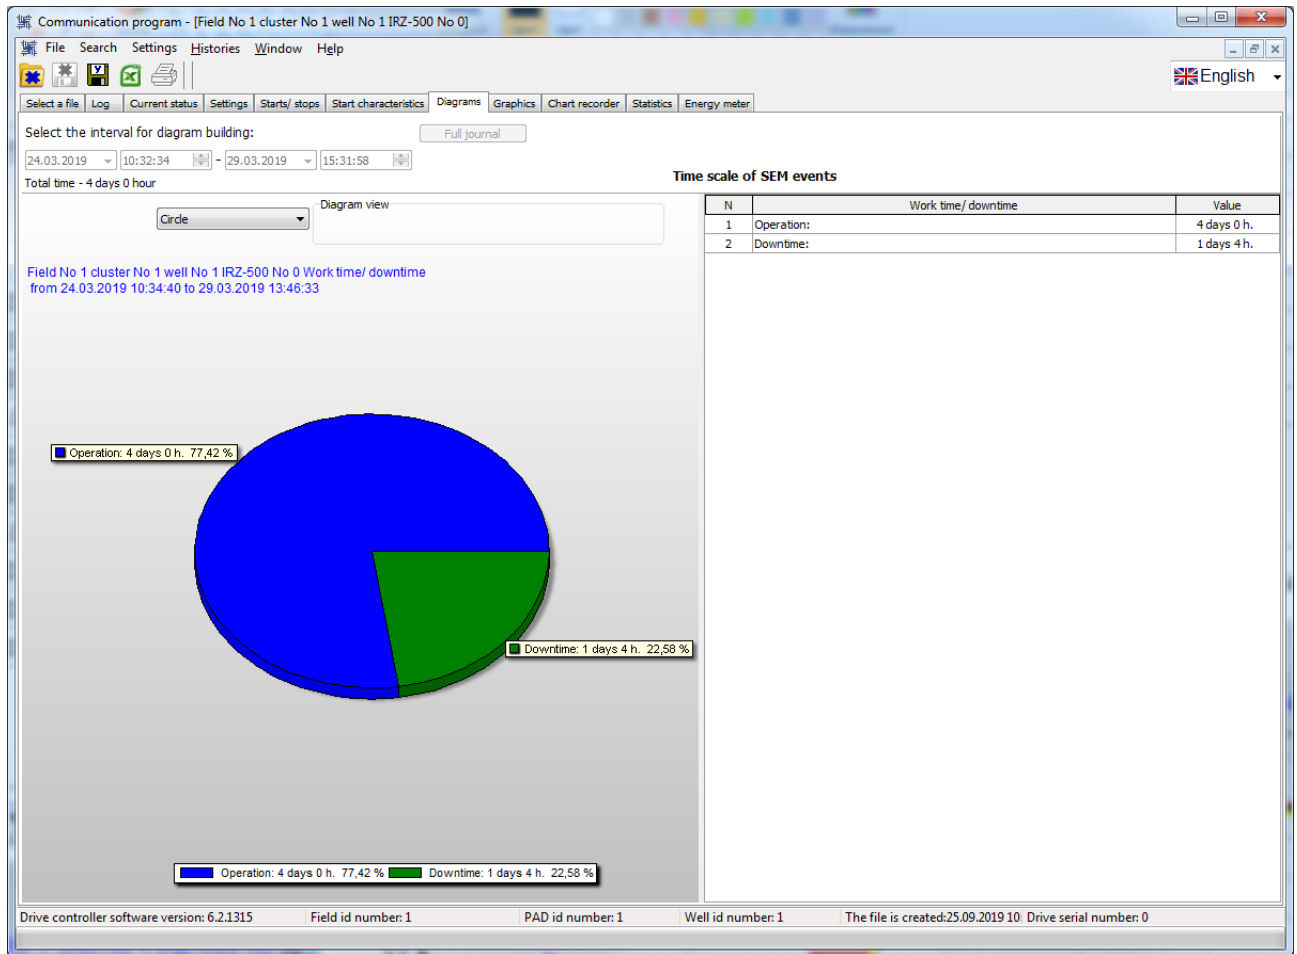

Fig. 28
Figure 28 indicates **Diagrams** tab.
To select the diagram view, check the relevant box at the top of **Diagrams** tab (see Fig. 28).
Figure 28 indicates drive work time/downtime diagram. The diagram shows a correlation graph related to drive work and down time. Work time is displayed in green, whereas down time is in blue. Every portion of the diagram has a legend with the type of the displayed event (e.g. "Operation"), duration of the event in days and hours, and percentage time of the event corresponding to total operation time of the drive (see Fig. 28). A legend is displayed at the bottom of the window. The legend contains relevant colors of the events shown in diagram, event name (operation or downtime), duration, and time in percent of each event corresponding to drive total operation time.
- Pie Chart (or Circular, see Fig. 28, 29),